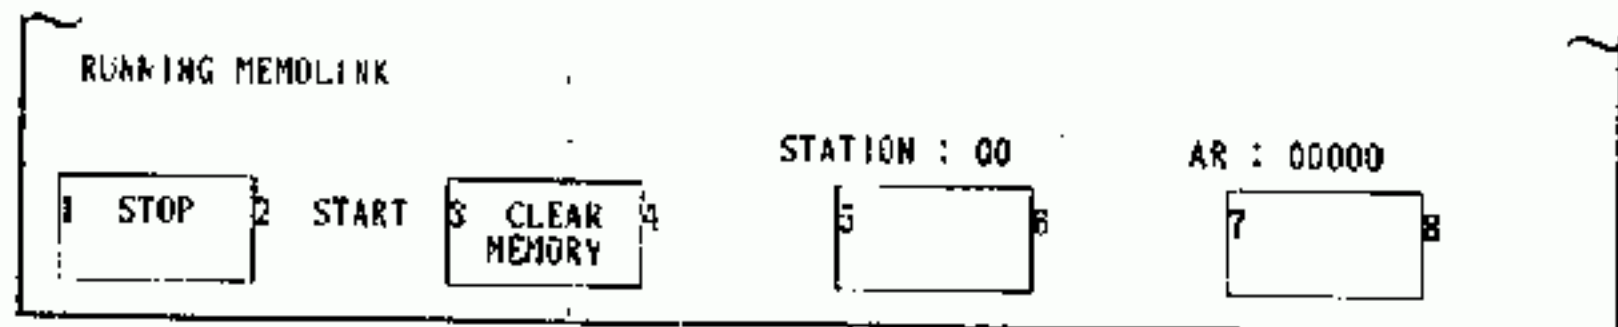

Fig. 5.2.98
2. If "CANCEL" is depressed instead of "CONFIRM," nothing happens, and the display returns to that shown in Fig. 5.2.98.